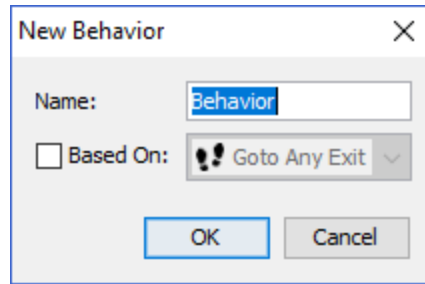

Figure 106. New Behavior dialog
1. Right click the **Behaviors** node from the Navigation View, and from the right-click menu, click **Add a Behavior**, which will open the New Behavior dialog shown in Figure 106.